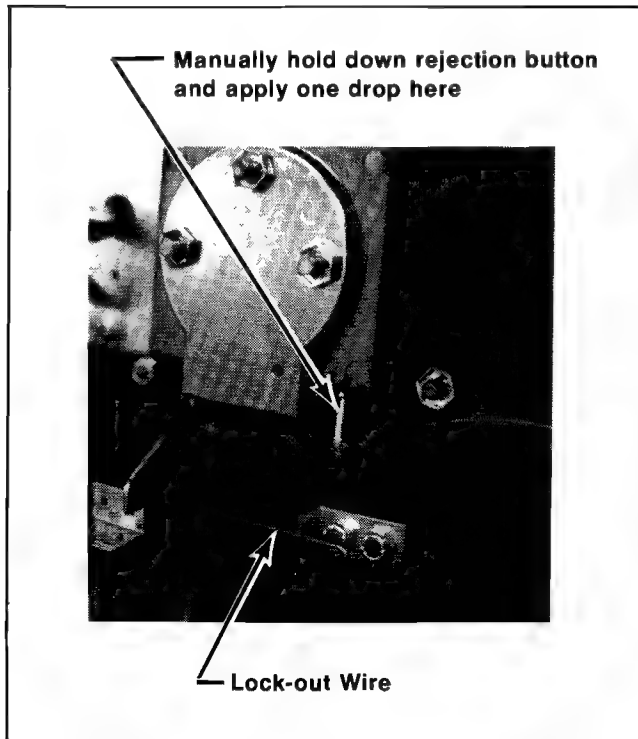

Figure 11 Close-up View of Lubrication Point
**Lubrication.** Do *not* apply lubrication to the coin mechanisms. The only points that may need lubrication (and only rarely) are the shafts of the scavenger buttons (coin rejection buttons) where they pass through the coin door. Apply only one drop of light machine oil, and be positive that no oil drops down onto a coin mechanism. Figure 11 shows this lubrication point.